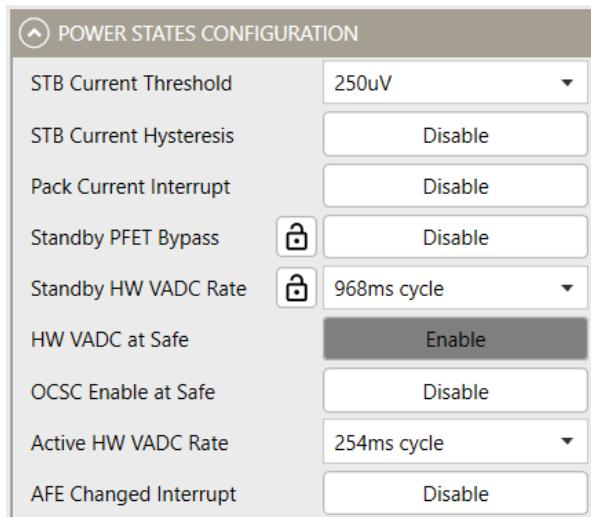

Figure 12: HW VADC at Safe Is Enabled
6. During configuration, the IC should be in safe mode, with all of the MOSFETs turned off. All of the voltage monitoring protections are disabled in safe mode by default. If a protection is required in safe mode, enable the “HW VADC at Safe” setting (see Figure 12).